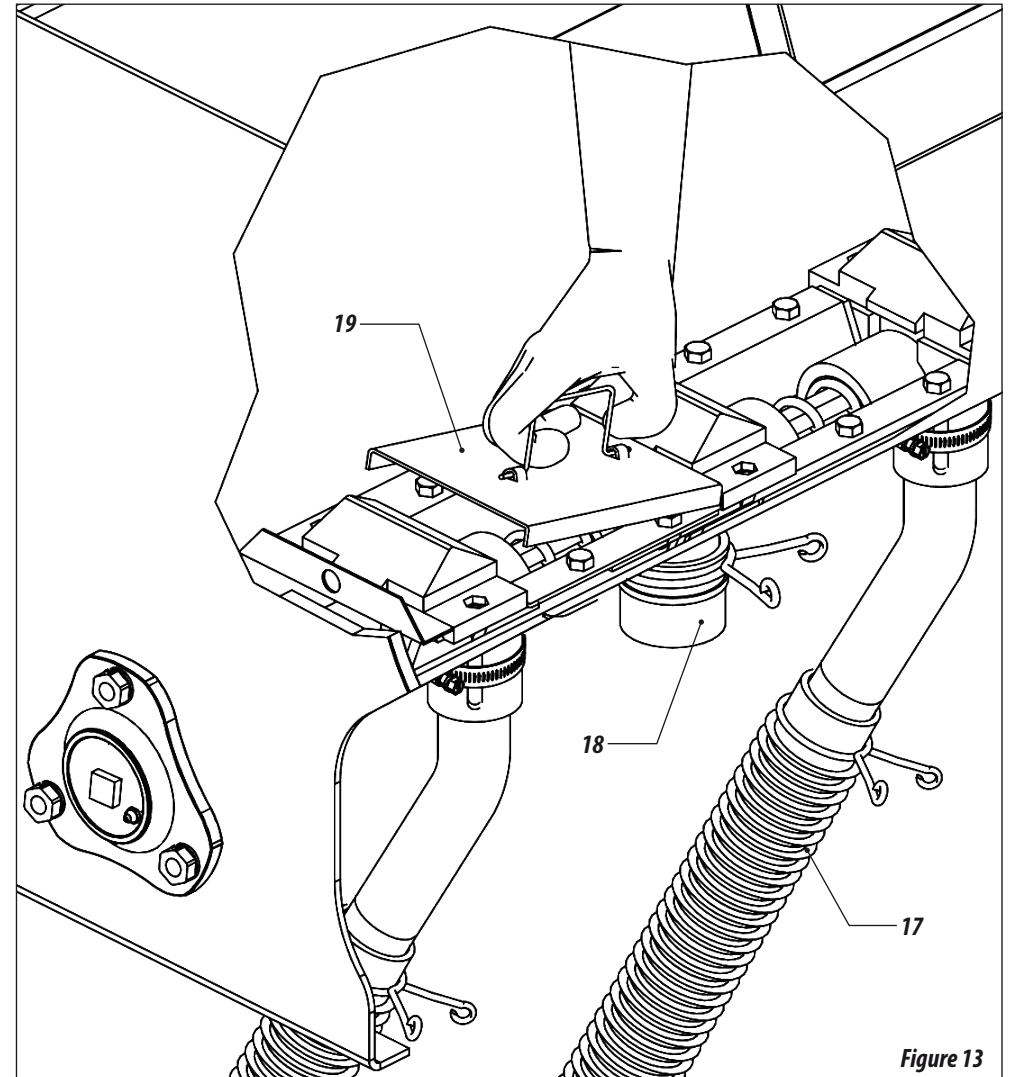

Figure 13
- 11- Remove the fertilizer lead hose (17) from the rows that has been removed, close the exit from the fertilizer tank with the plug (18).
- 12- Close the entrance of fertilizer into the tank placing the lid(19). **Figure 13.**